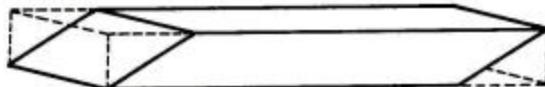
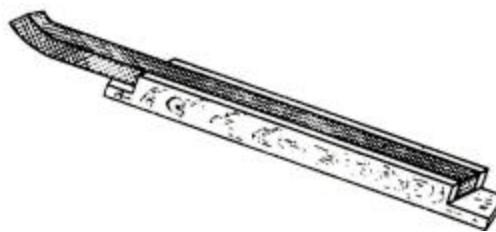

Fig.23 – Oblique cut of the gasket
Fig.24 – Device to cut packing rings
On fig.23 "V" corresponds to the peripheral speed (in m/s) calculated by formula:
- Cut new packing rings with oblique end (see fig. 23). To facilitate cut, a disposal of easy construction can be used (see fig. 24).